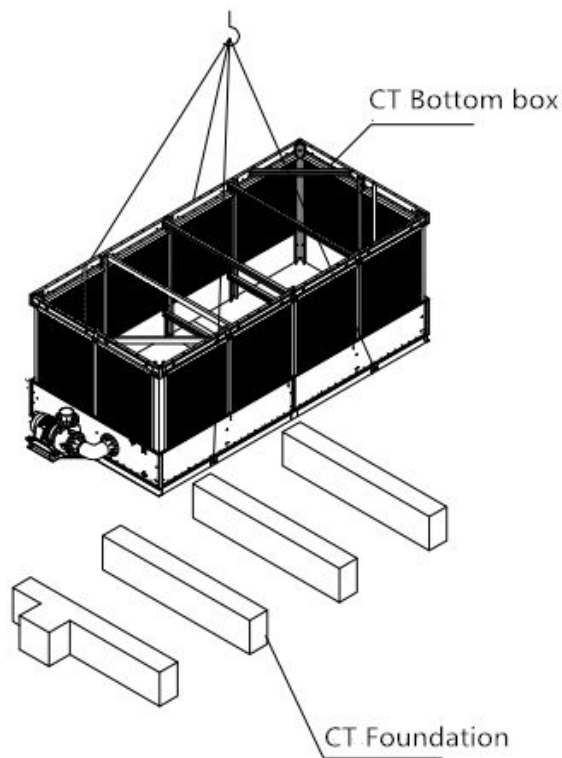

Figure 2
(1) The main unit is mainly made up of a cooler, a plate (a catch basin), a spray system (a spray pump and a spray pipe), an exhaust system (a fan), a filler and a water collector (Fig. 2 counter flow type).
3.3 If user installs the product by itself, its professional technician should refer to the Schematic Diagram of Water Cooling during pipe installation. (Fig.2 .3.4.5)